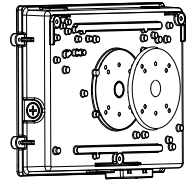

Figure 11
6. Attach the included EVA foam gasket onto the back plate. (see Fig. 11)